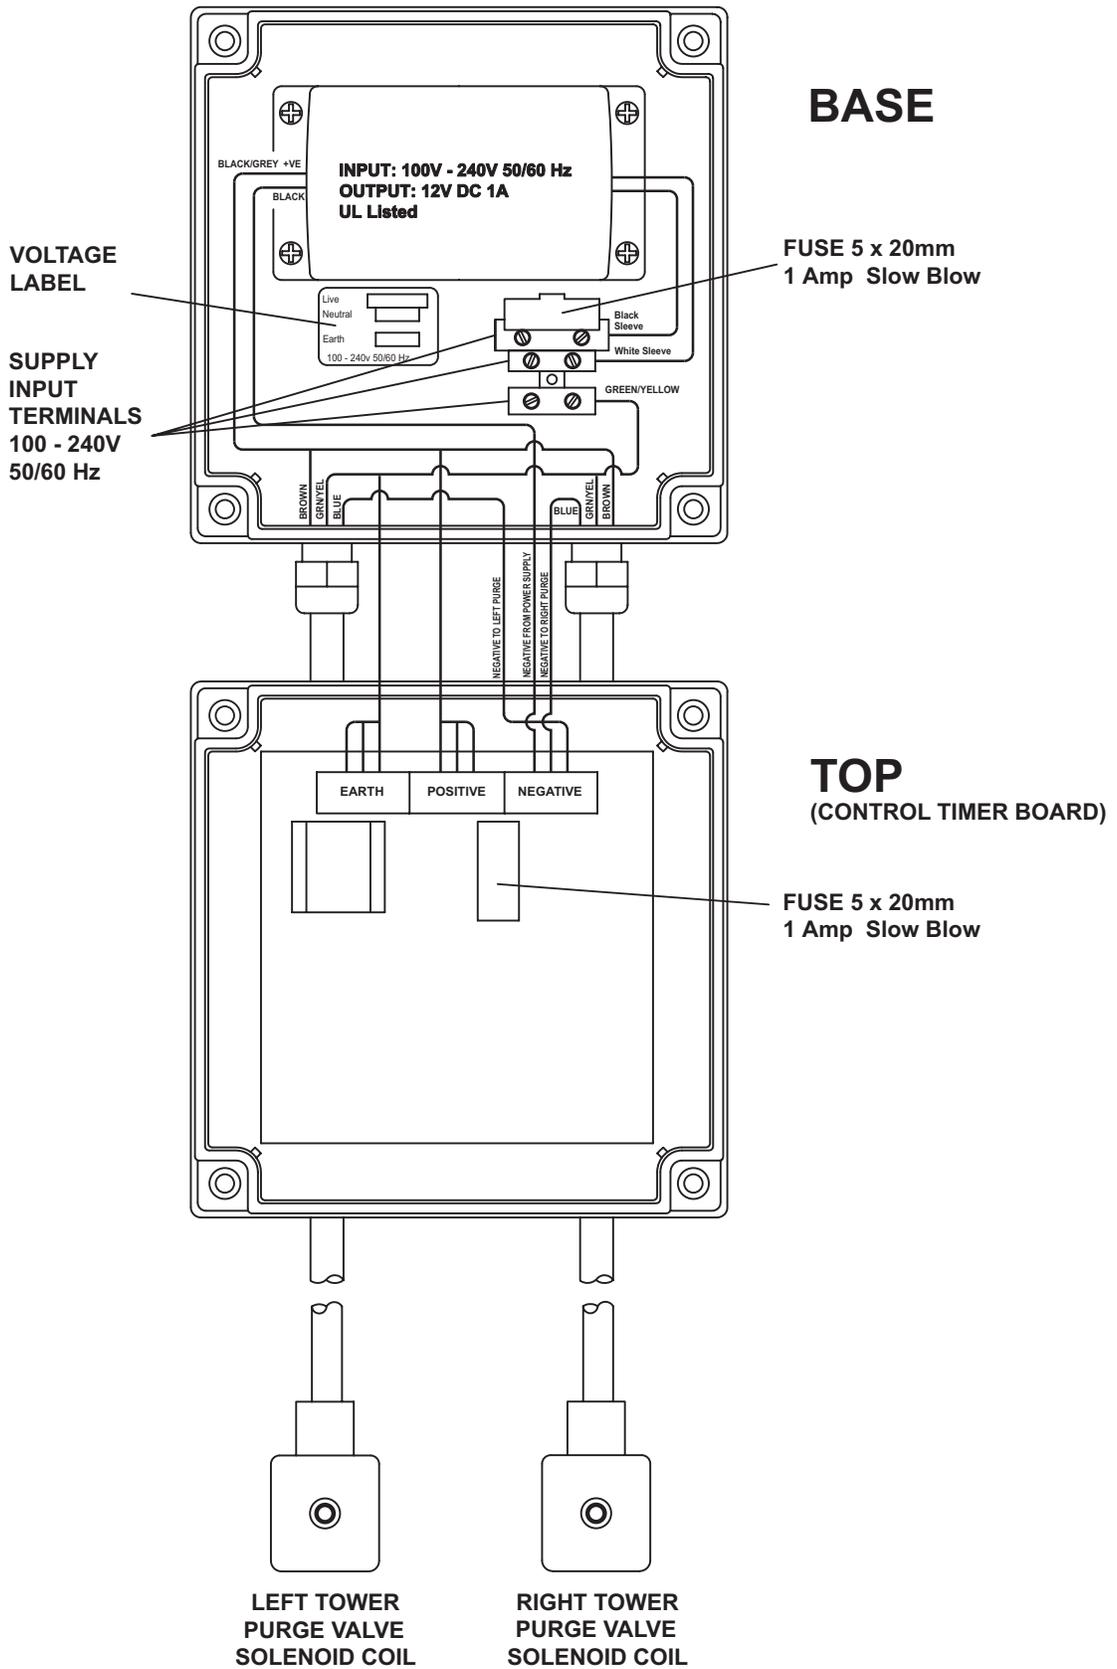

Figure 6-2
- Figure 6-2, Point-to-Point Diagram
See Figure 6-2, Point-to-Point Diagram for the location and function of the various cable and cord connectors that are provided on the bottom of the HCT Series Controller enclosure.